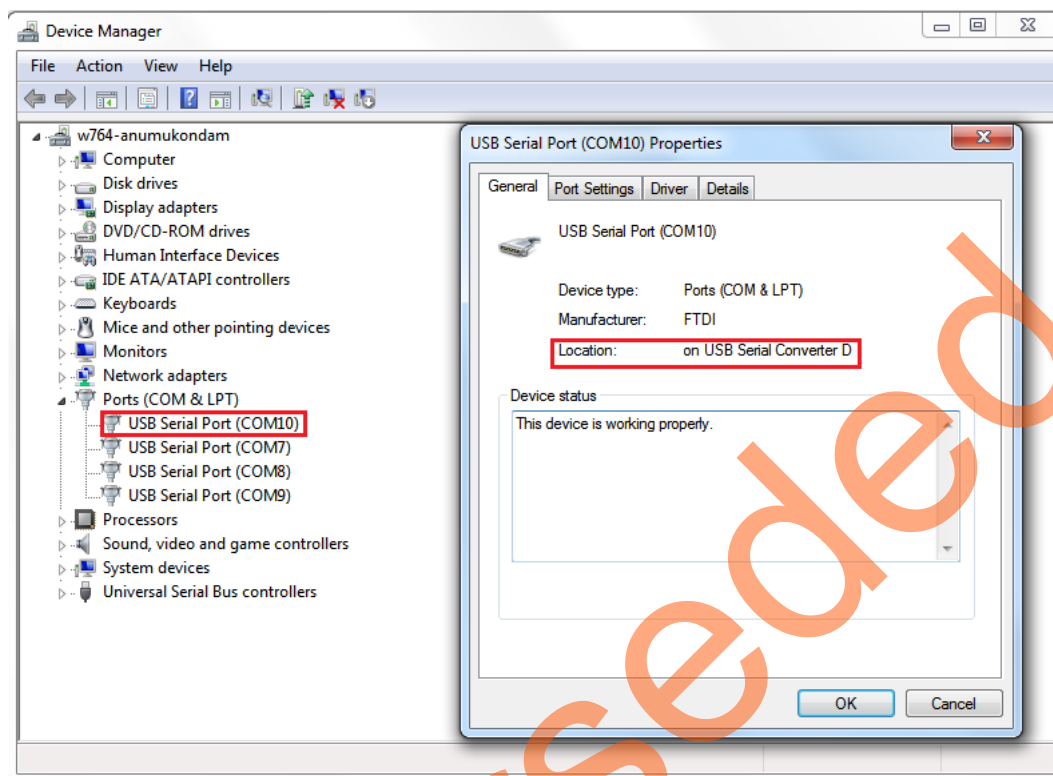

Figure 8 • USB Serial Port Properties Window
5. Connect the other end of the USB cable to the host PC. Ensure that the USB to UART bridge drivers are automatically detected. This can be verified in the Device Manager of the Host PC. The FTDI USB to UART converter enumerates four COM ports. Note down the USB Serial Converter D COM port number to use it in the HyperTerminal. Figure 8 on page 12 shows the USB Serial port properties. As shown in Figure 8 on page 12, COM10 is connected to USB Serial Converter D.